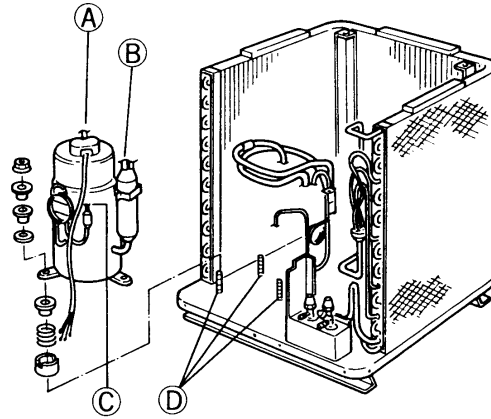

Fig. 21
Take apart three joints (A), (B) and (C) brazed to the compressor by brazing torch. Fig. 21